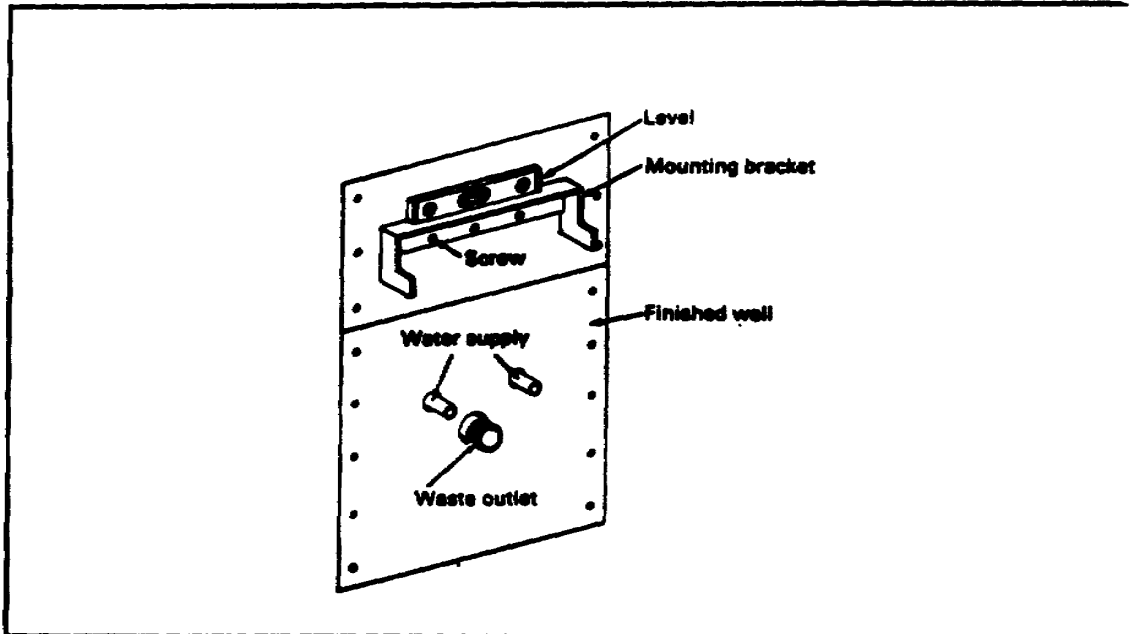

**FIGURE 4. METHOD OF INSTALLING MOUNTING BOARD**
**Installing the mounting board.** Use the following steps to install the mounting board (see Figure 4).
If the wall is finished, cut out a section so that the two adjoining wall studs can be measured and marked for notches. If the wall is not finished, measure and mark the location of each notch to be cut into each wall stud (see Figure 4-A).
Cut out the notch on each wall stud to the same width and depth as the mounting board to be installed (see Figure 4-B).
Place and nail mounting board to wall studs. Be sure that the board is even with the edge of the wall studs facing you (see Figure 4-C).